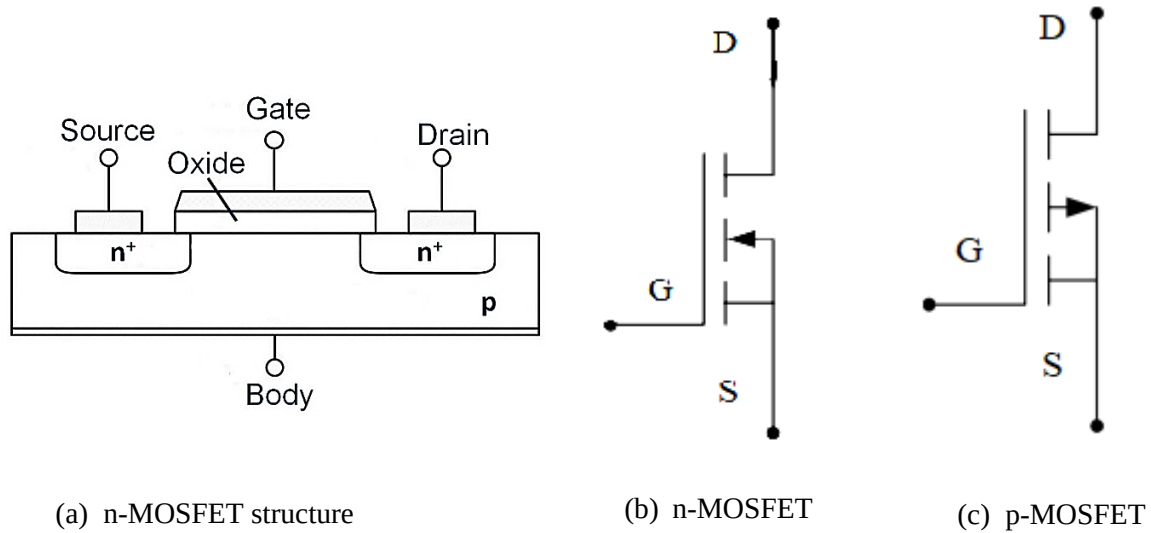

Figure 1: Structure and symbol of MOSFET
The basic structure of MOSFET is shown in Figure 1. The structure consists of three layers: the metal gate electrode, the insulating oxide layer (SiO_2) and the bulk semiconductor. It is an enhancement type n-channel MOSFET. It consists of a lightly doped p-type substrate in which two heavily doped n-regions are formed at the two ends by the process of diffusion. The n-channel and p-channel enhancement type MOSFETs are represented by the symbols given in Figure 1 (b) and (c). It has three terminals; drain (D), gate (G) and source (S). The body (also called substrate) and source are internally short.